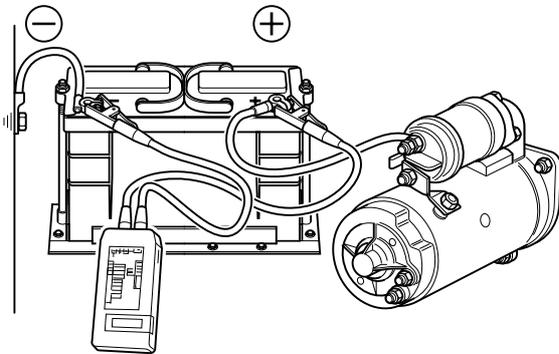

Fig 16.
- 1 Connect the voltmeter across the battery terminals. → Fig 16. (□ 6-26). Reading in 'start' position: 10.0V approximately. Minimum permissible reading in 'start' position 9.5V.